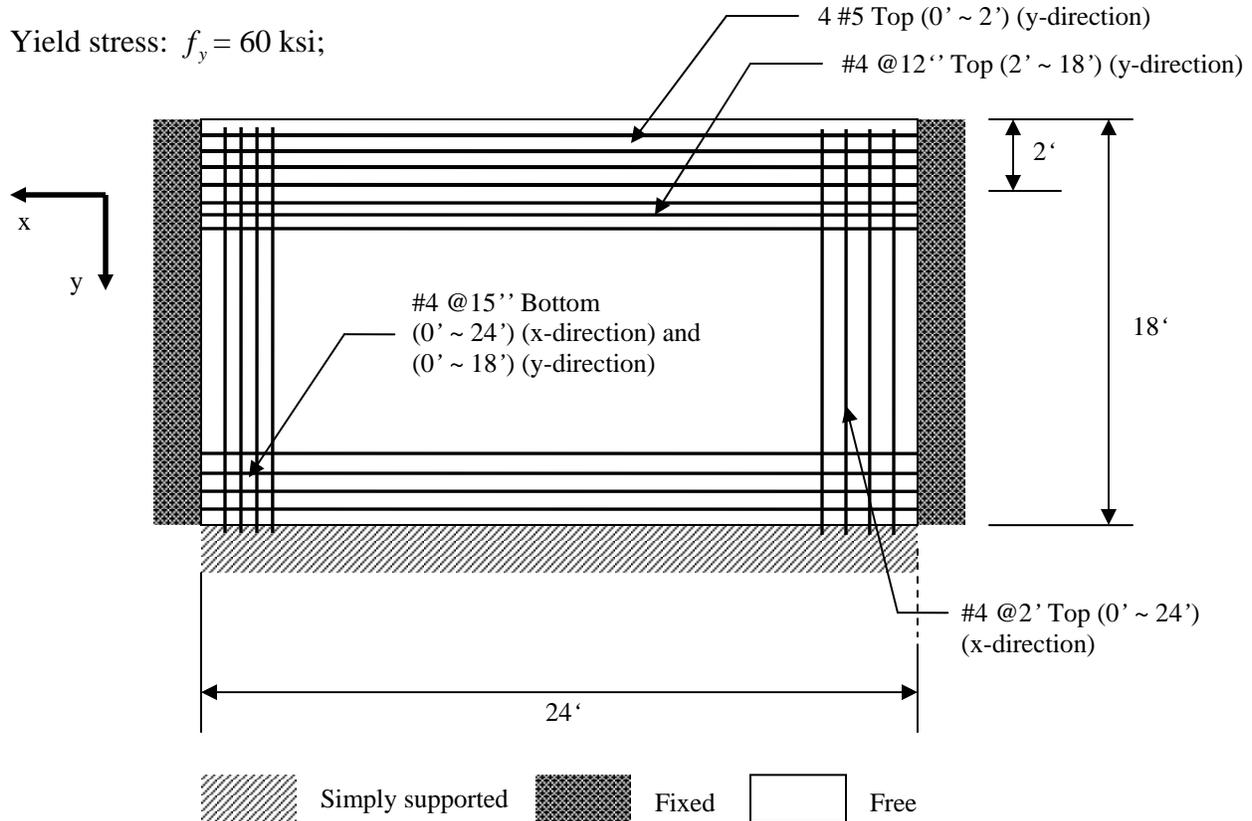
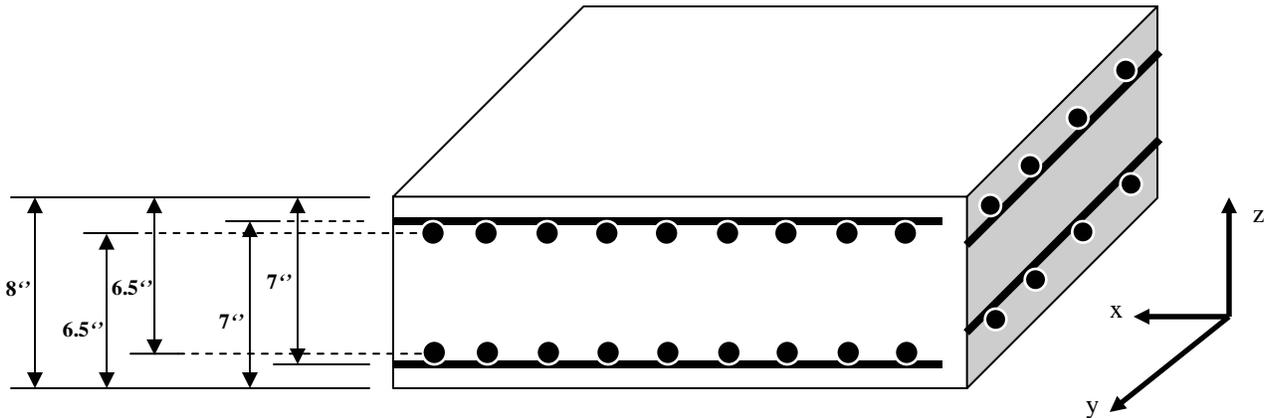

Figure 1. Reinforced concrete slab and its dimensions
Figure 2. Illustration of the effective depths in x- and y- directions
A reinforced concrete slab (shown in Fig. 1) is supported by two fixed edges and one simply supported edge but has no support along one long side. It has a uniform thickness of 8 in., resulting in effective depths in the long direction of 7 in. and in the short direction of 6.5 in. Bottom reinforcement consists of #4 bars at 15 in. centers in each direction, continued to the supports and free edge. Top negative steel in the x direction consists of #4 bars at 12 in. on center, except that in a 2 ft. wide “strong band” parallel and adjacent to the free edge, four #5 bars are used. Top negative steel in the y direction consists of #4 bars at 24 in. on center.
1. Fig. 2 is the partial illustration of the reinforced concrete slab in 3D, shown in Fig. 1. Notice that the given effective depths are valid for distances either from the top or the bottom. You will need these values to calculate positive and negative bending moments in the slab.